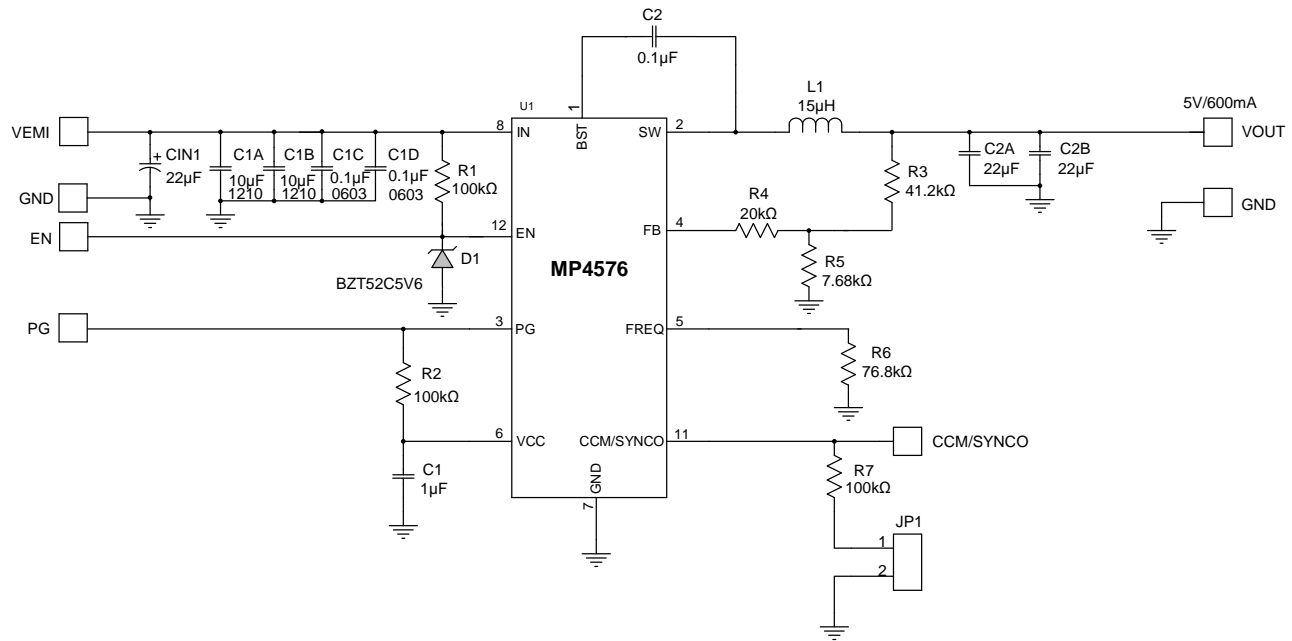

Figure 8: Typical Application Circuit
- 11) The recommended PCB layout is based on the circuit in Figure 8.